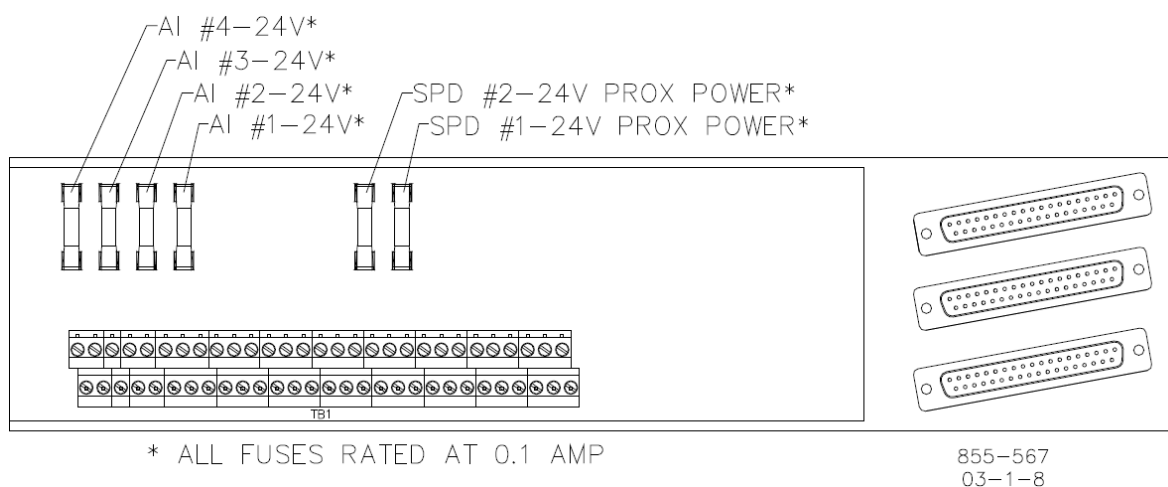

Figure 5-12. TMR MPU and Analog I/O Module FTM Fuse Locations
3. Locate and replace the fuse with another fuse of the same size and rating. See Figure 5-12 or 5-13 for channel fuse locations.